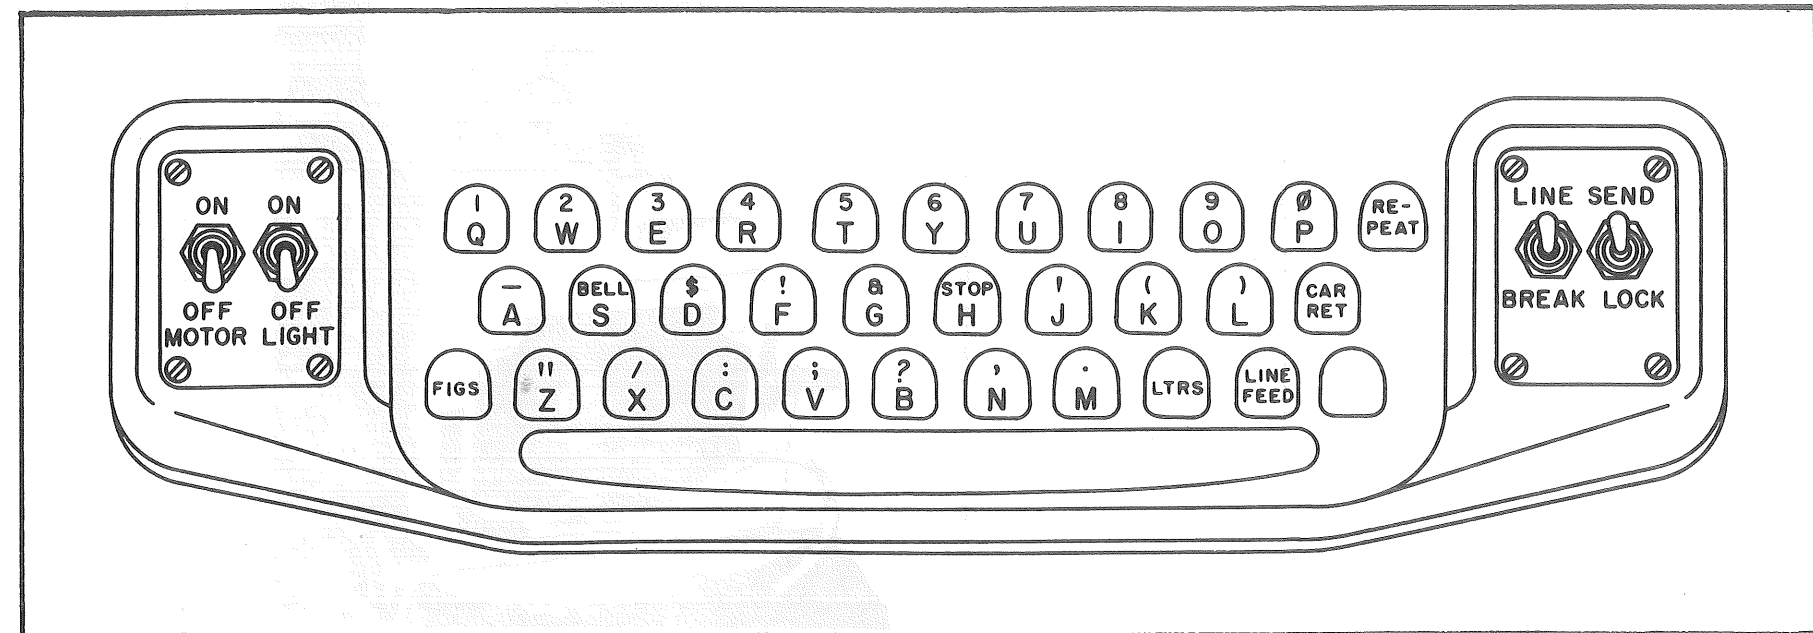

Figure 2. TT-76(*)/GGC Keyboard.
- b. Place switches on TT-76(*)/GGC as follows (fig 2).
- (1) SELECTOR switch to position 2.
- (2) SEND-LOCK to SEND.
- (3) POWER to ON.
- (4) LIGHT to ON.
- (5) MOTOR to ON.